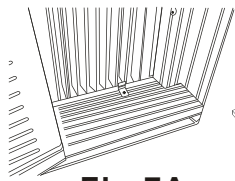

Fig.7A
A. Place the frame lock between the frame extensions and the window sill as shown (Fig.7A for Wooden windows), (Fig.7B for Vinyl-Clad windows).